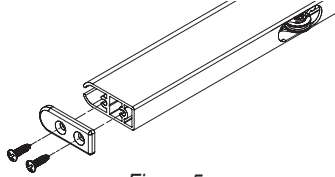

Figure 5
- ⑦ Remove one of the endcaps from the fabric hem-bar (see Fig. 5).